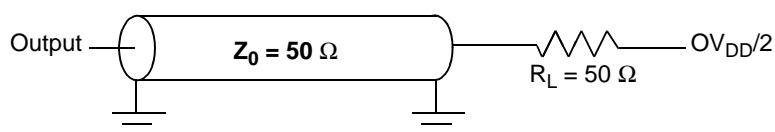
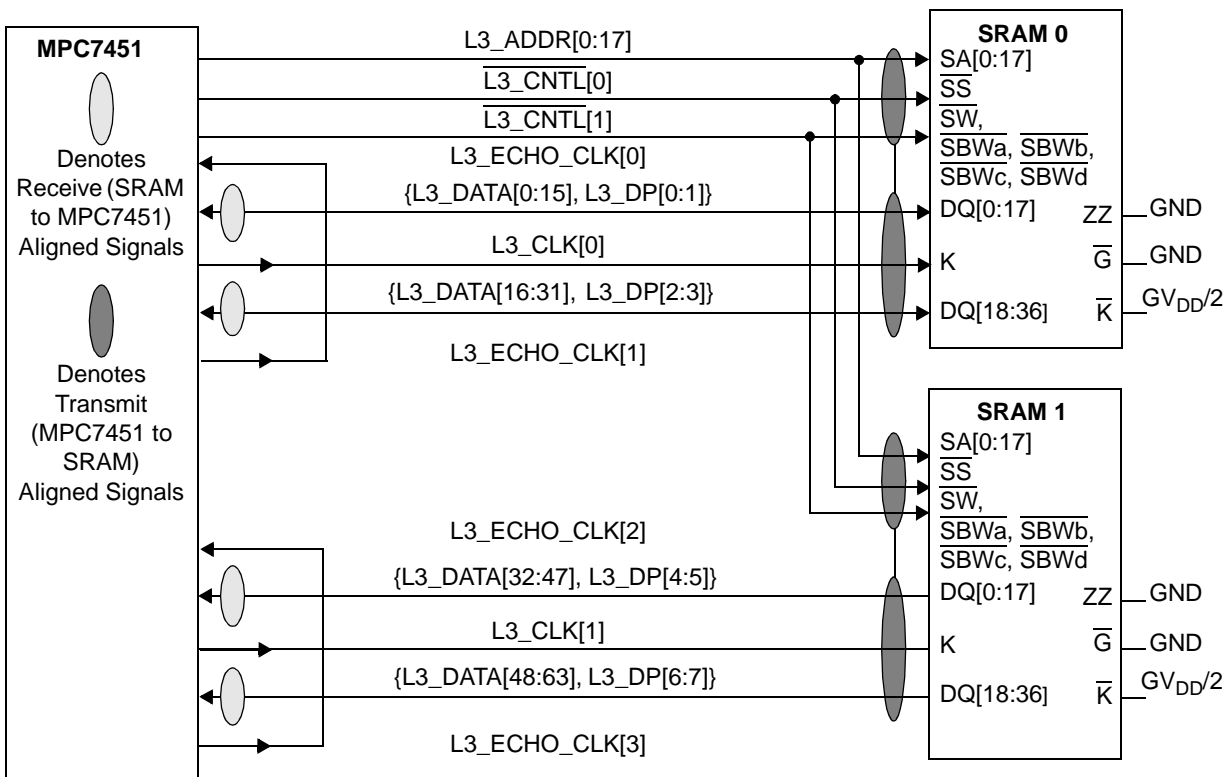
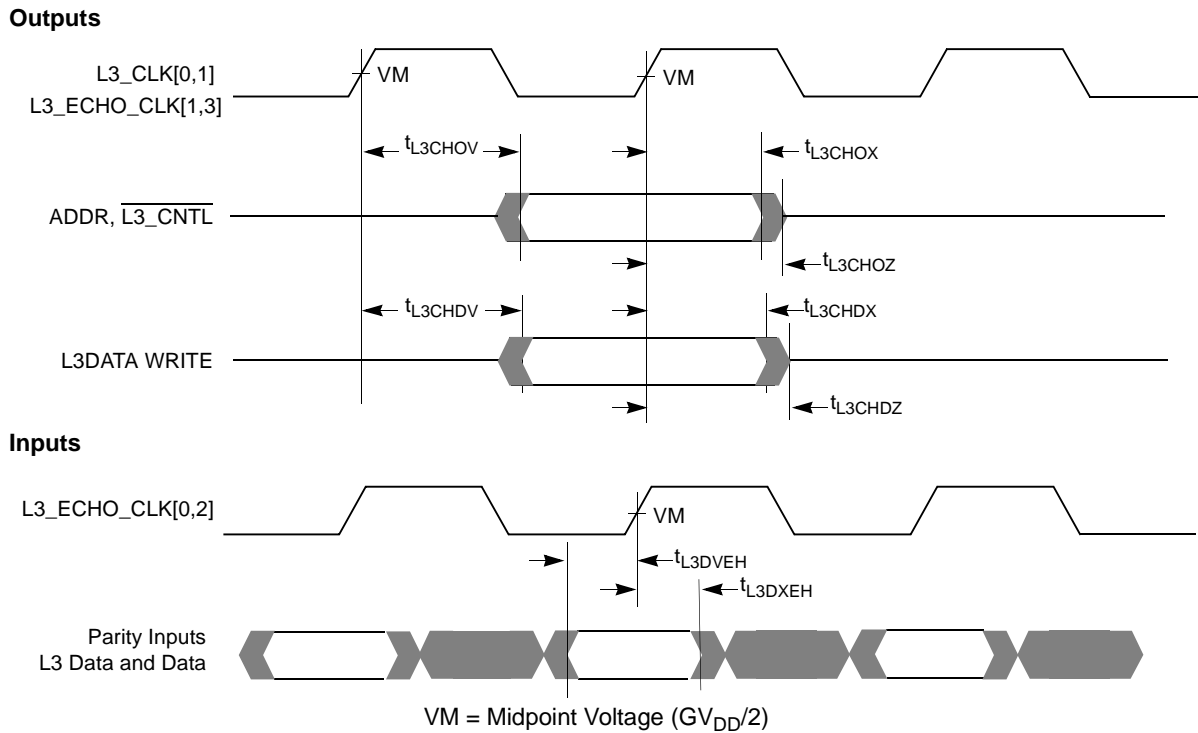

Figure 8. AC Test Load for the L3 Interface
Figure 11. Typical Synchronous 1-MByte L3 Cache Late Write or PB2 Interface
Figure 12. L3 Bus Timing Diagrams for Late Write or PB2 SRAMs
- For high speed operations, L3 interface address and control signals should be a “T” with minimal stubs to the two loads; data and clock signals should be point-to-point to their single load. Figure 8 shows the AC test load for the L3 interface.
More specifically, certain signals within groups should be delay-matched with others in the same group while intergroup routing is less critical. Only the address and control signals are common to both SRAMs and additional timing margin is available for these signals. The double-clocked data signals are grouped with individual clocks as shown in Figure 9 or Figure 11, depending on the type of SRAM. For example, for the MSUG2 DDR SRAM (see Figure 9); L3DATA[0:31], L3DP[0:3], and L3_CLK[0] form a closely coupled group of outputs from the MPC7451; while L3DATA[0:15], L3DP[0:1], and L3_ECHO_CLK[0] form a closely coupled group of inputs.
Table 12 provides the L3 bus interface AC timing specifications for the configuration as shown in Figure 9, assuming the timing relationships shown in Figure 10 and the loading shown in Figure 8.
5. All output specifications are measured from the midpoint voltage of the rising (or for DDR write data, also the falling) edge of L3_CLK to the midpoint of the signal in question. The output timings are measured at the pins. All output timings assume a purely resistive 50- Ω load (see Figure 8).
When using PB2 or Late Write SRAMs at the L3 interface, the parts should be connected as shown in Figure 11. These SRAMs are synchronous to the MPC7451; one $L3_CLK_n$ signal is output to each SRAM to latch address, control, and write data. Read data is launched by the SRAM synchronous to the delayed $L3_CLK_n$ signal it received. The MPC7451 needs a copy of that delayed clock which launched the SRAM read data to know when the returning data will be valid. Therefore, $L3_ECHO_CLK1$ and $L3_ECHO_CLK3$ must be routed halfway to the SRAMs and then returned to the MPC7451 inputs $L3_ECHO_CLK0$ and $L3_ECHO_CLK2$ respectively. Thus, $L3_ECHO_CLK0$ and $L3_ECHO_CLK2$ are phase-aligned with the input clock received at the SRAMs. The MPC7451 will latch the incoming data on the rising edge of $L3_ECHO_CLK0$ and $L3_ECHO_CLK2$.
Table 13 provides the L3 bus interface AC timing specifications for the configuration shown in Figure 11, assuming the timing relationships of Figure 12 and the loading of Figure 8.
Figure 11 shows the typical connection diagram for the MPC7451 interfaced to PB2 SRAMs, such as the Motorola MCM63R737, or Late Write SRAMs, such as the Motorola MCM63R836A.
Figure 12 shows the L3 bus timing diagrams for the MPC7451 interfaced to PB2 or Late Write SRAMs.